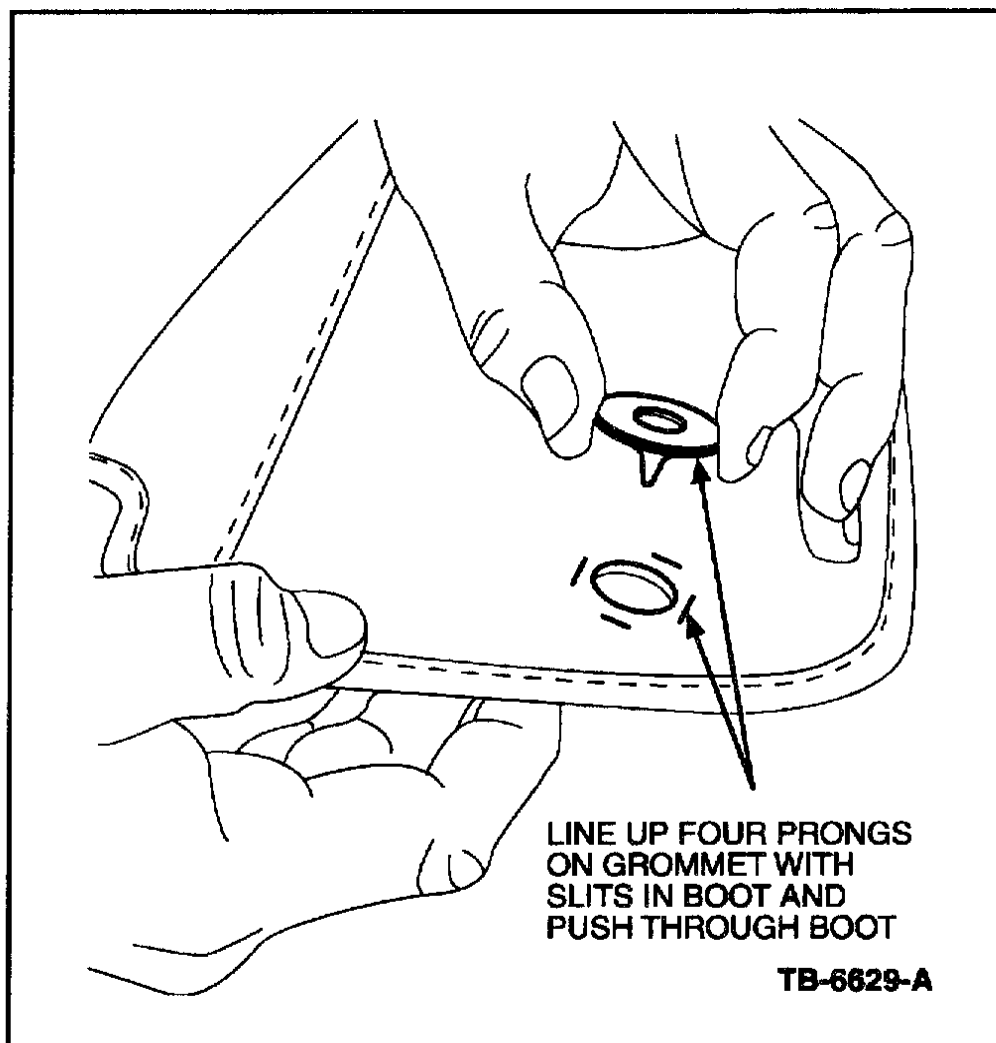

Figure 3
5. Line up the prongs on the grommet with the marks left by the punch teeth (Figure 3). Insert the grommet into the hole from the top side of the boot.
6. Verify that all four (4) prongs are protruding through the backside of the boot. Place the oval washer inside the prongs of the grommet.